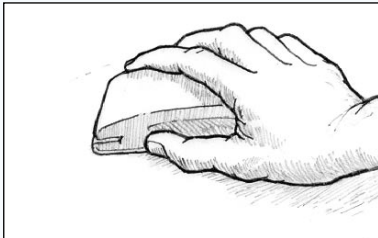

Figure 32 Sand to a smooth finish.
3. Sand to a smooth finish (*Figure 32*). If there are runs or sags, begin sanding with 80-grit paper to remove the highest areas. Sand until the surface feels and looks fair. Complete sanding with the appropriate grit for the type of coating to be applied - check coating instructions. Paint adhesion partly relies on the mechanical grip of the paint keying into the sanding scratches in the surface of the epoxy. If a high-build or filling primer is to be applied, 80-100 grit is usually sufficient. For primers and high-solids coatings, 120-180 grit may be adequate. Finishing with 180 grit paper is often recommended for coatings with high-gloss finishes. Grits finer than this may not provide enough “tooth” for good adhesion and may promote sags and runs. Always follow the paint manufacturer’s recommendations for surface preparation. Wet sanding is preferred by many people because it reduces sanding dust and in addition, Steps 2 and 3 above become one operation.